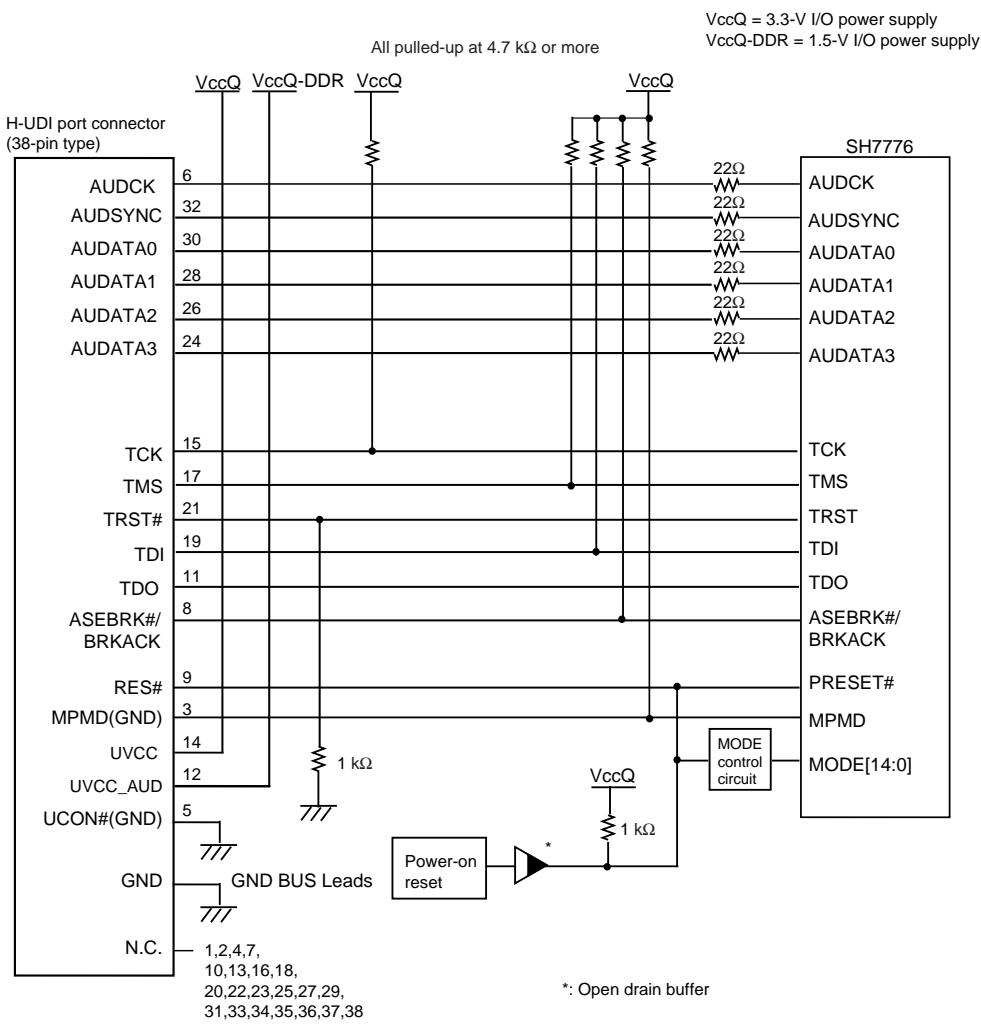

Figure 1.5 Recommended Circuit for Connection between the H-UDI Port Connector and MPU when the Emulator is in Use (38-Pin Type)
Figure 1.5 shows a recommended circuit for connection between the H-UDI and AUD port connectors (38 pins) and the MPU when the emulator is in use.
- (1) When the emulator is used: MPMD = 0
- (2) When the emulator is not used: MPMD = 1
- Figure 1.5 shows an example of circuits that allow the MPMD pin to be GND (0) whenever the emulator is connected by using the user system interface cable.
7. The resistance values shown in figure 1.5 are for reference.